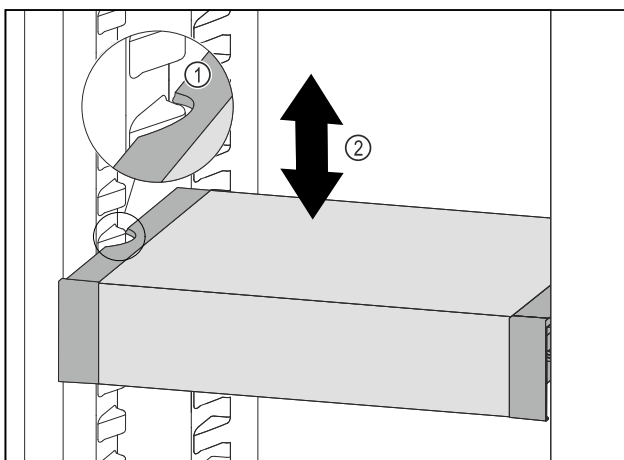

Fig. 92
- Pull VarioSafe forwards until the recesses in the side of the VarioSafe are at the level of the support rib in the refrigerator compartment. *Fig. 92 (1)*
- Move VarioSafe up or down in the refrigerator compartment until the desired height is reached. *Fig. 92 (2)*